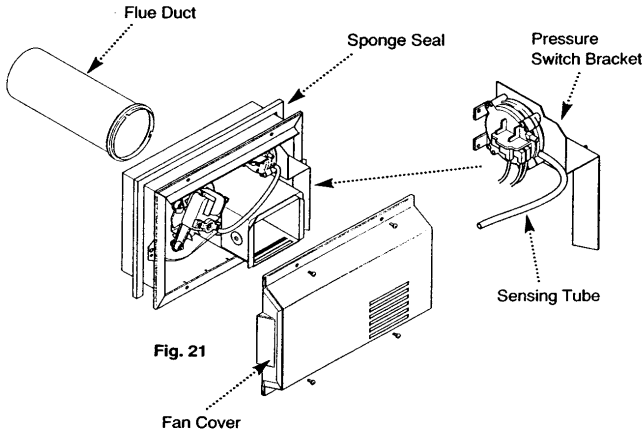

Fig. 21
3. Unpack the fan box assembly and undo the screws retaining the brown fan box cover. Take the loose sponge seal from the fan box (Fig. 21).
6. Fit the larger diameter flue duct to the rear bayonet fixing on the fan box ensuring it is located correctly and the seal is made (Fig. 21). Depending upon the wall thickness it may be necessary to cut the flue - see Section 5.6.
7. Fit the sponge seal to the 2 sides and top of the fan box mounting face (Fig. 21).
8. Remove the sensing tube from the fan. Undo the screws holding the pressure switch bracket to the fan box. Pull the bracket and switch from the box (Fig. 21).